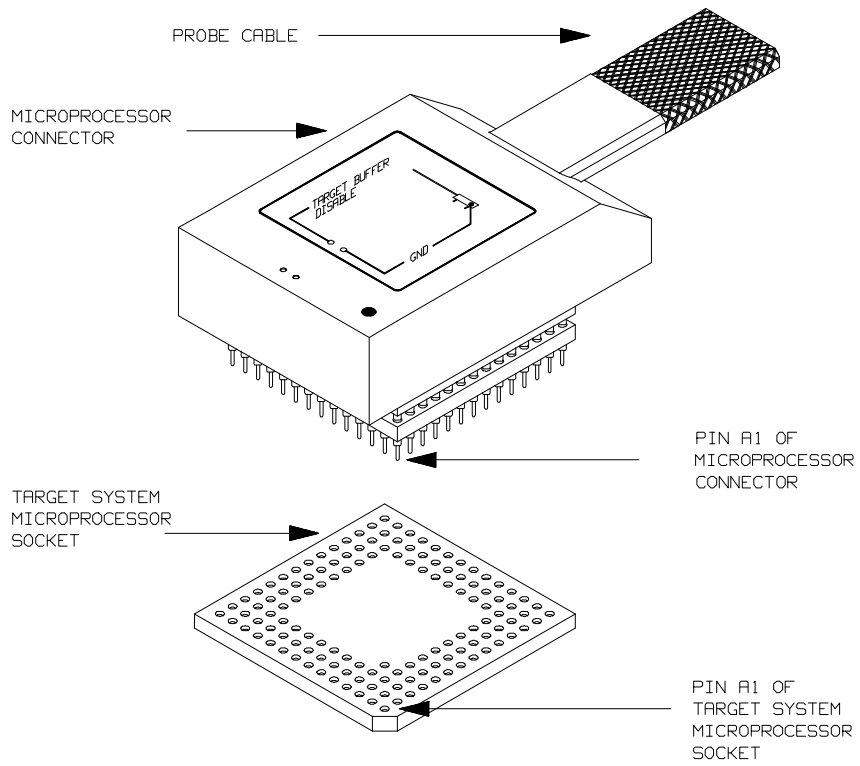

Figure 3-5. Installing into a 70236 PGA type socket
- Install the microprocessor connector into the target system microprocessor socket with a pin protector (see figure 3-5).